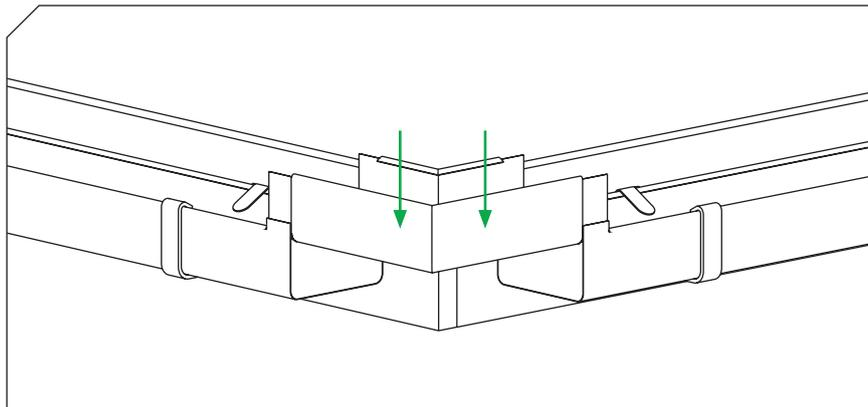

Figure 15
5.5 Insert the corner onto the gutters. **(Figure 15)**